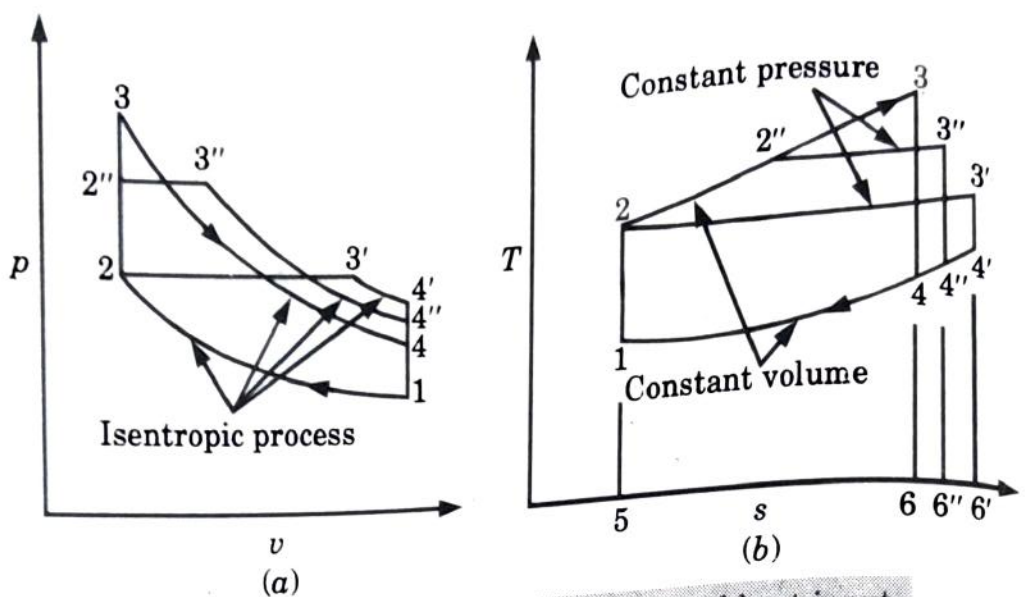

Fig. 1.19.1. Same compression ratio and heat input.
1. For the same compression ratio and heat addition Otto, diesel and dual cycle are represented in Fig. 1.19.1 on the $p-v$ and $T-s$ diagram as :